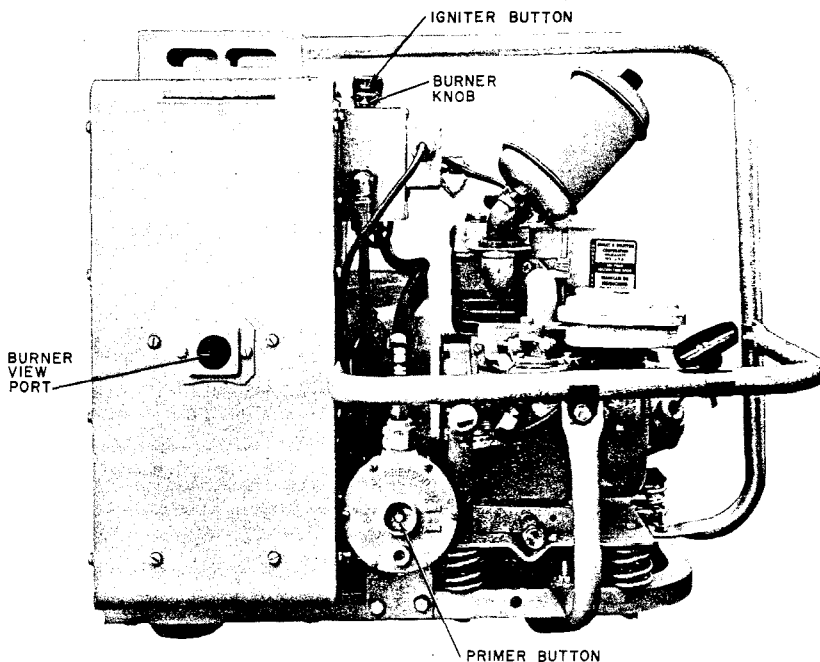

Fig. 9—Burner View Port for PEG-8A
- (c) After the burner lights continue to depress the igniter button for approximately 30 seconds, then release the button. The flame can be seen through the burner view port (Fig. 9).